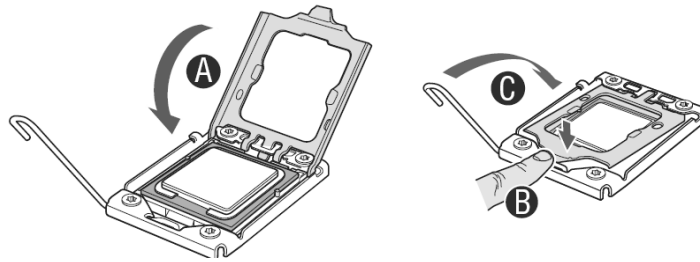

Figure 17. Close Load Plate and Socket Lever
10. Close the load plate and socket lever: Close the load plate all the way as shown in Figure 17 (Step “A”), push down on the load plate (Step “B” in Figure 17), and close the socket lever and ensure the load plate tab engages under the socket lever when fully closed (Step “C” in Figure 17).